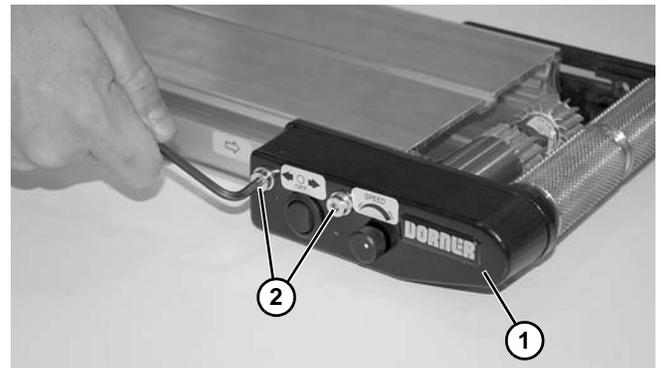

Figure 128
2. Remove inframe drive side cover (**Figure 128, item 1**) by removing two head plate fastening screws (**Figure 128, item 2**).